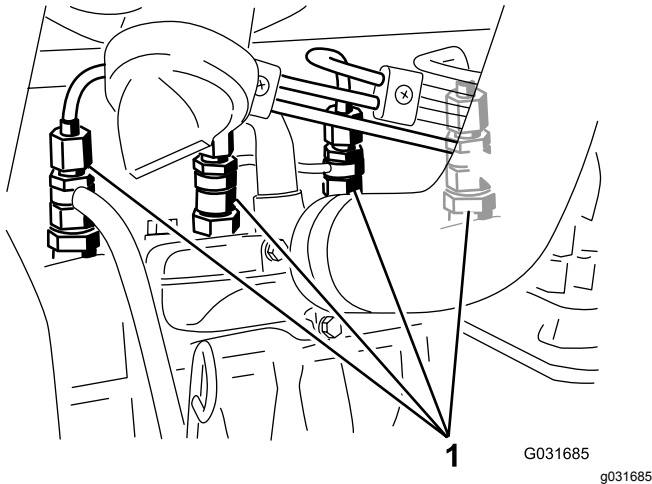

Figure 43
1. Loosen the pipe connection to the No. 1 nozzle and holder assembly (Figure 43).